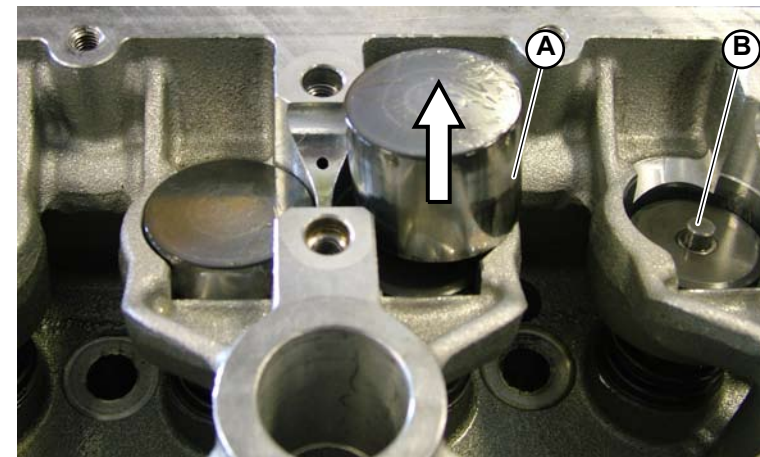

Fig.2
1. Remove the tappets (**A-Fig.2**) from their housings.
2. Remove the spacers (**B-Fig.2**) positioned underneath the tappets.
4. Using the special tool (**A-Fig.2**), press the spacer ring to insert the 2 cotters (**B-Fig.2**).